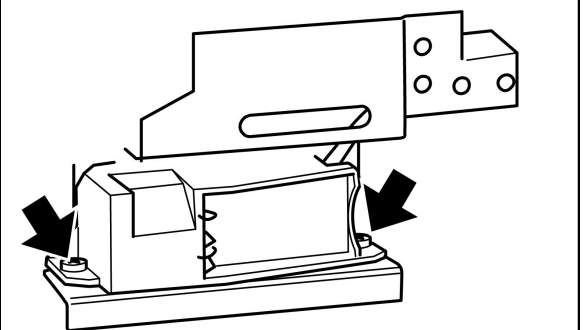

Figure 37. Removal of
5. Unscrew the four support bracket screws (See figure 37). The generator and its support bracket can now be moved forward. Be careful not to apply tension to the microswitch leads.
6. Remove the two fixing screws that attach the generator unit to the support bracket. The igniter generator can now be removed (See figure 37).